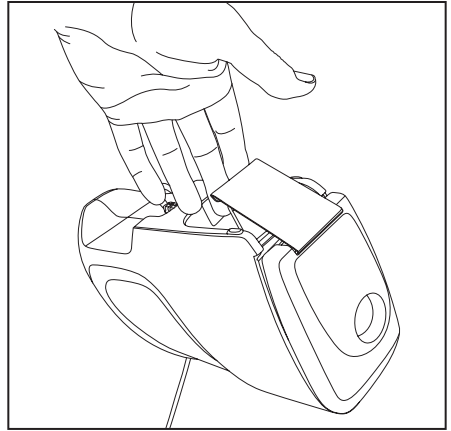

Fig. 11
- Turn the vacuum over. Lift up the cover retaining clip to remove the cover (Fig. 11).